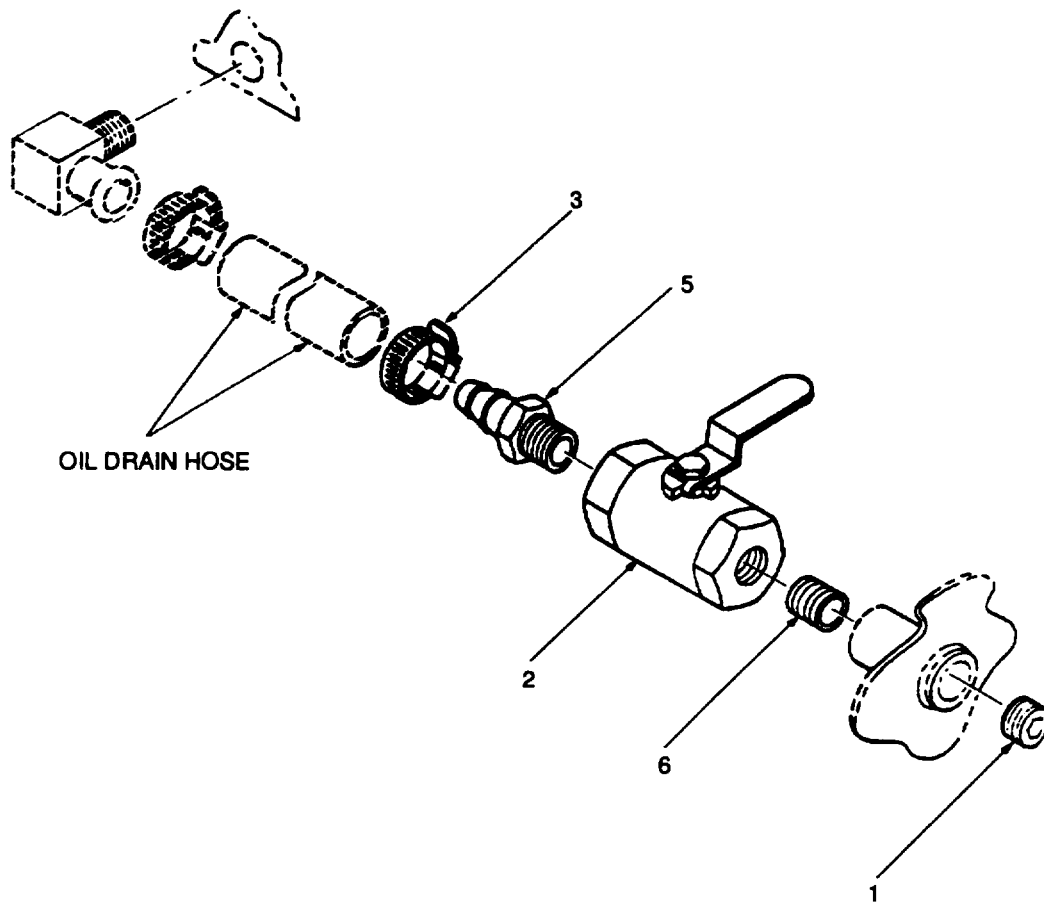

FIGURE 2-31. Oil Drain Valve
- d. Remove plug (1, FIGURE 2-31), open drain valve (2) and drain engine oil into suitable container.
- e. Loosen damp (3) and remove oil drain hose from adapter (5).
- f. Remove drain valve (2) from skid fitting.
- g. Remove adapter (5) and pipe fitting (6) from oil drain valve (2).
- a. Install adapter (5, FIGURE 2-31) and pipe fitting (6) in oil drain valve (2).
- b. Install drain valve (2) on skid fitting.
- c. Install oil drain hose on adapter (5). Secure with damp (3).
- d. Ensure drain valve (2) is dosed, install plug (1) and service engine oil, paragraph 2-1.2.4.